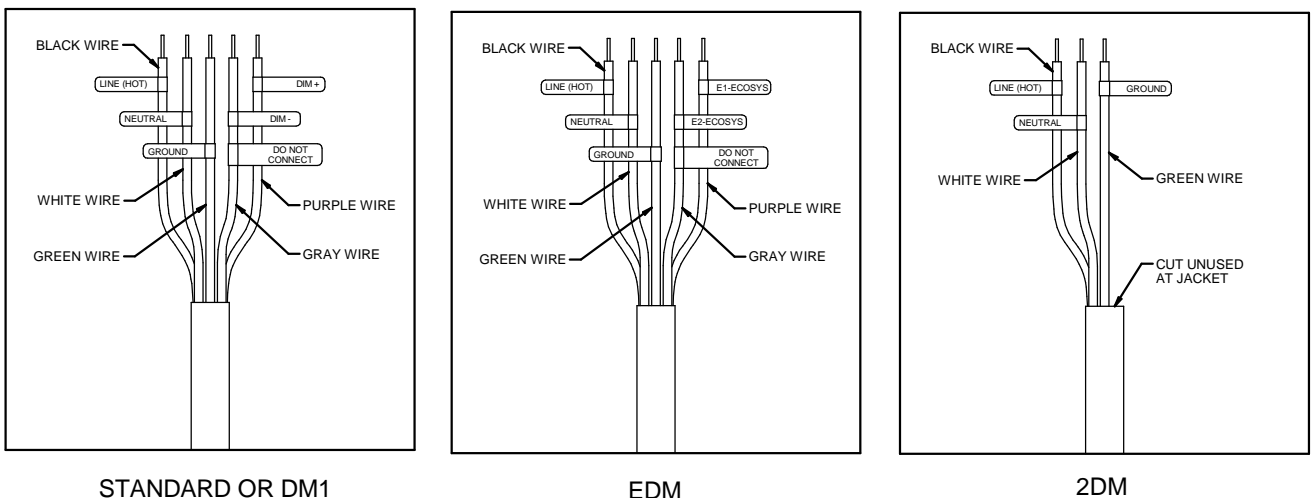

Figure 2
5. Re-label all wires as they were prior to step 3 for future maintenance. If needed, refer to Fig 2 diagrams below for specific dimming option labeling.